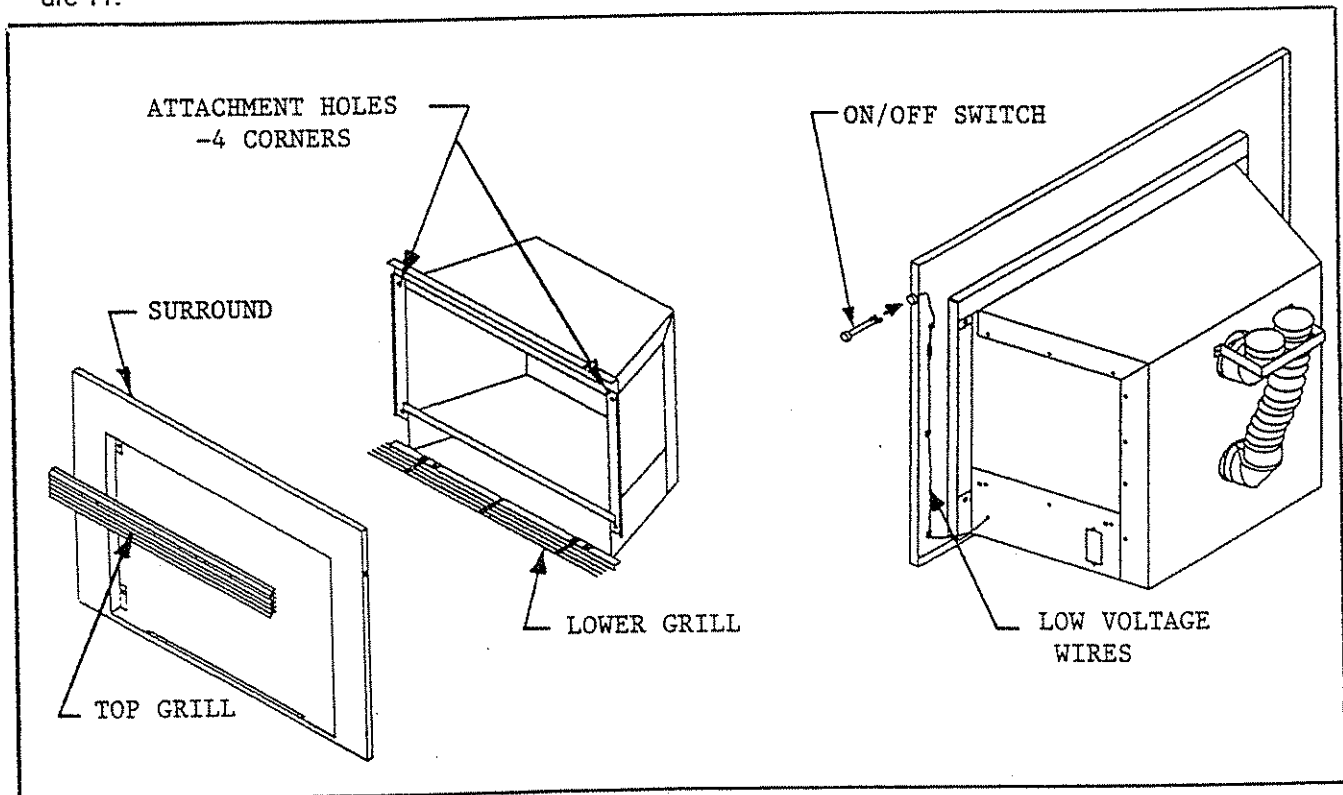

FIGURE 11
1. Remove the four (4) screws attaching the lower grill to the unit and remove the lower grill.
2. Find the coiled low voltage wires and ON/OFF switch attached to outer right side of the insert. See Figure 11.
5. Remove and retain the four surround attachment screws at the corners of the face of the unit. See Figure 11.